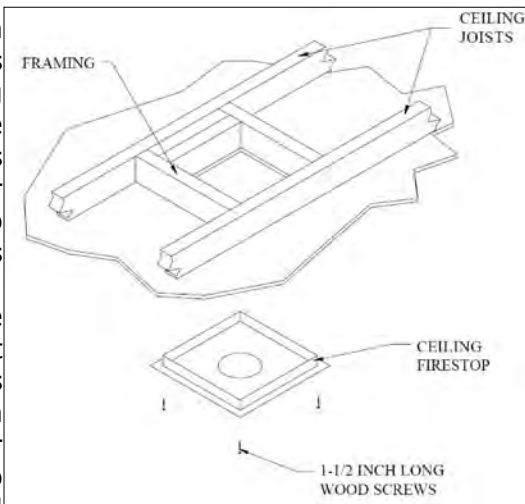
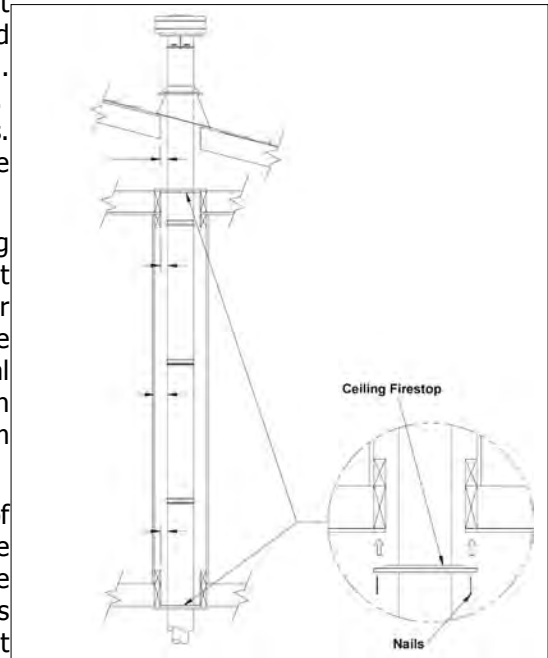

Figure 35: Installation of Ceiling Firestop.
Figure 38: Installation of Ceiling Fire Stops.
Step 3. To install the Ceiling Firestop in a flat ceiling, cut a square hole in the ceiling 11"x11" (280x280mm) square for 8" x 5" pipe, centered on the hole drilled in Step 2. Frame the hole as shown in Figure 35.
Step 8. Slip the Storm Collar over the Pipe, and push it down to the top of the Flashing, as shown in Figure 38. Use the non-hardening sealant above and below the joint between the Storm Collar and the Pipe.
- (1) For multi-story vertical installations, a Ceiling Firestop is required at any subsequent floors (as shown in Figure 38). The opening should be cut and framed in the same manner as the opening in Step 3 (see Figure 35).
- (2) Any occupied areas above the first floor, including closets and storage spaces, which the vertical vent passes through, must be enclosed. The enclosure may be framed and sheet rocked with standard construction materials, however minimum allowable clearances between the outside of the vent pipe must be maintained. Do not fill any of the required air spaces with insulation.